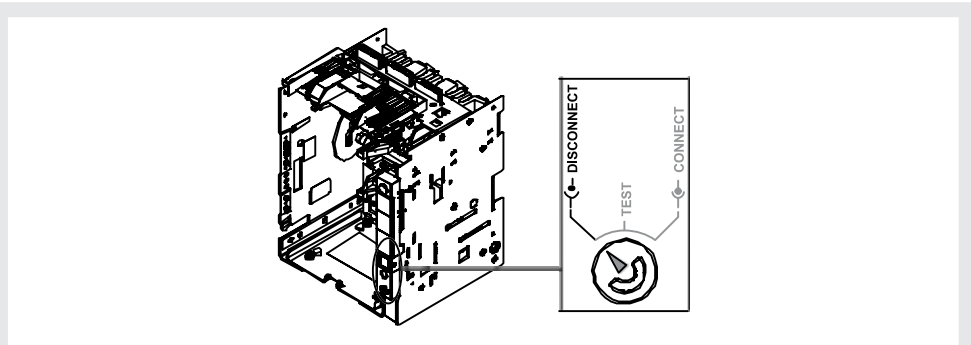

Figure 40
2. Make sure that signalling device on the fixed part indicates the **DISCONNECT** position. See Figure 40.